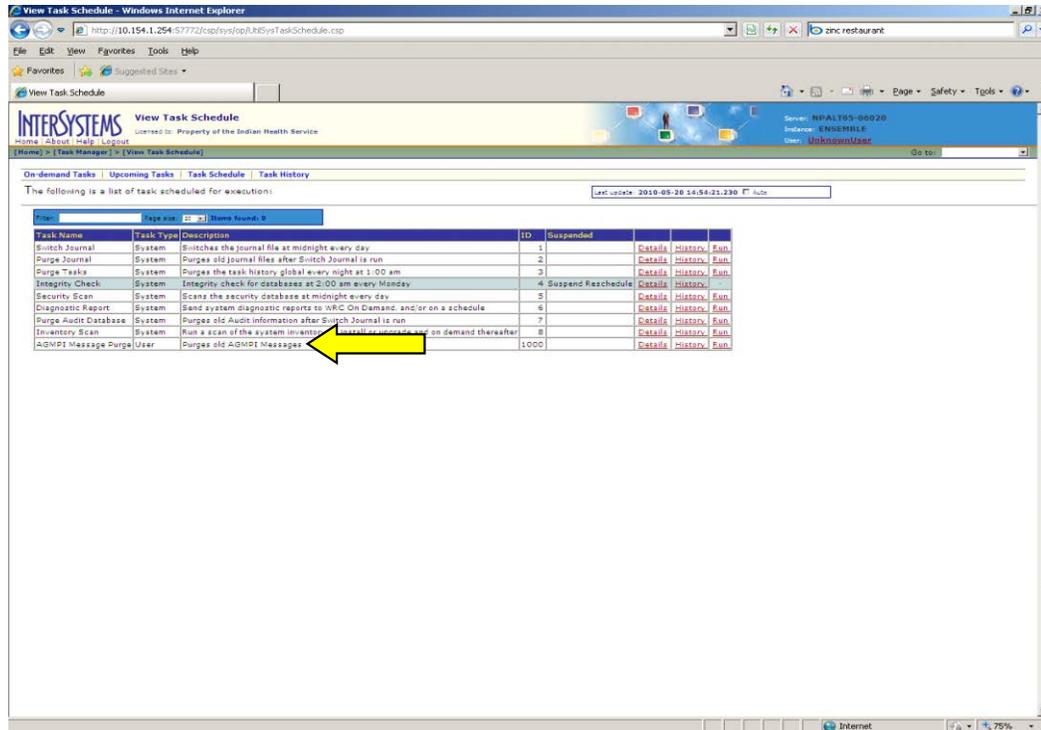

Figure C-6: **View Task Schedule** page with new task highlighted
15. Click **Finish** to display the **View Task Schedule** page with the new task at the bottom of the page, as shown in Figure C-6.